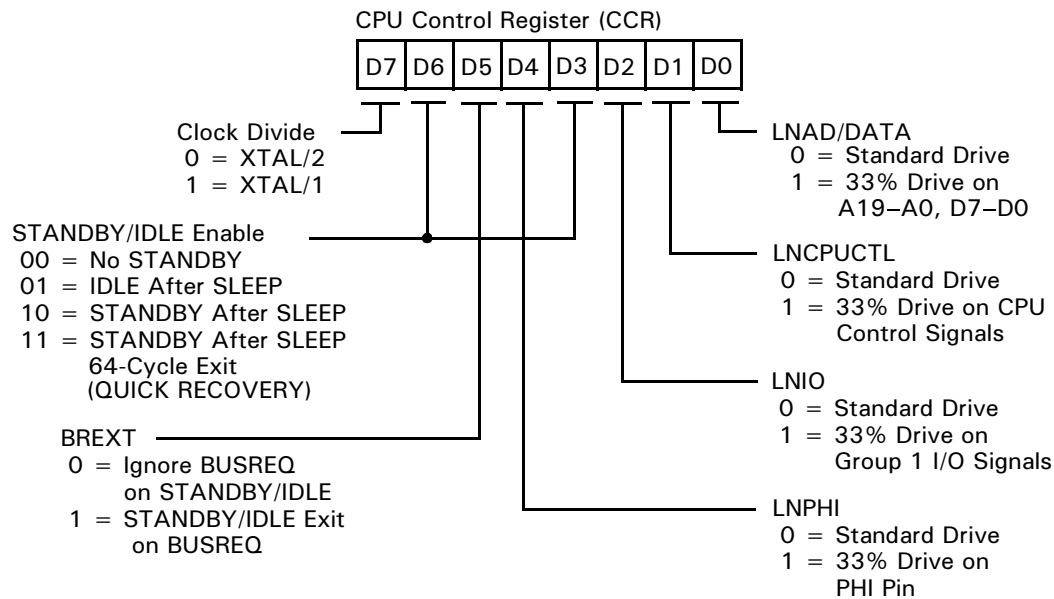

Figure 31. CPU Control Register (CCR) Address 1FH
**CPU Control Register (CCR).** This register controls the basic clock rate, certain aspects of Power-Down modes, and output drive/low-noise options (Figure 31).